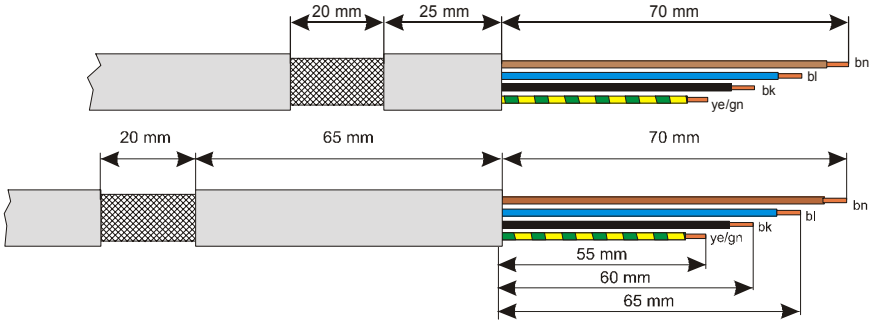

Bild 6-1 Preparation the motor cables
2. Preparation the motor cables (fig.6-1), an mount wire end ferrules on the device end of the motor cable.